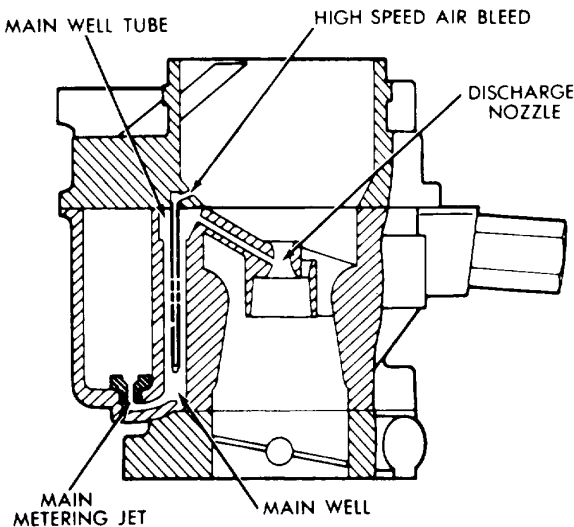

FIG. 6. Main Metering System. Model 1940
**MAIN METERING SYSTEM (FIG. 6)**